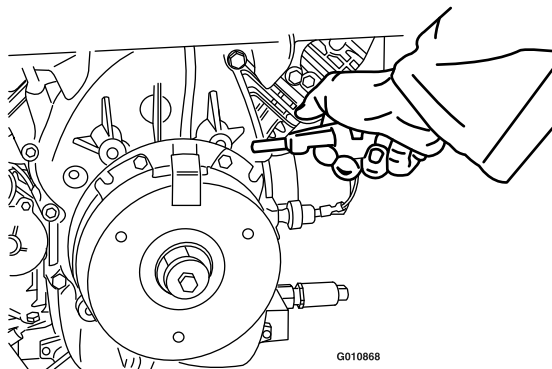

Figure 78
3. Using an air compressor, blow out any debris from under the brake pole and around the brake spacers (Figure 78).